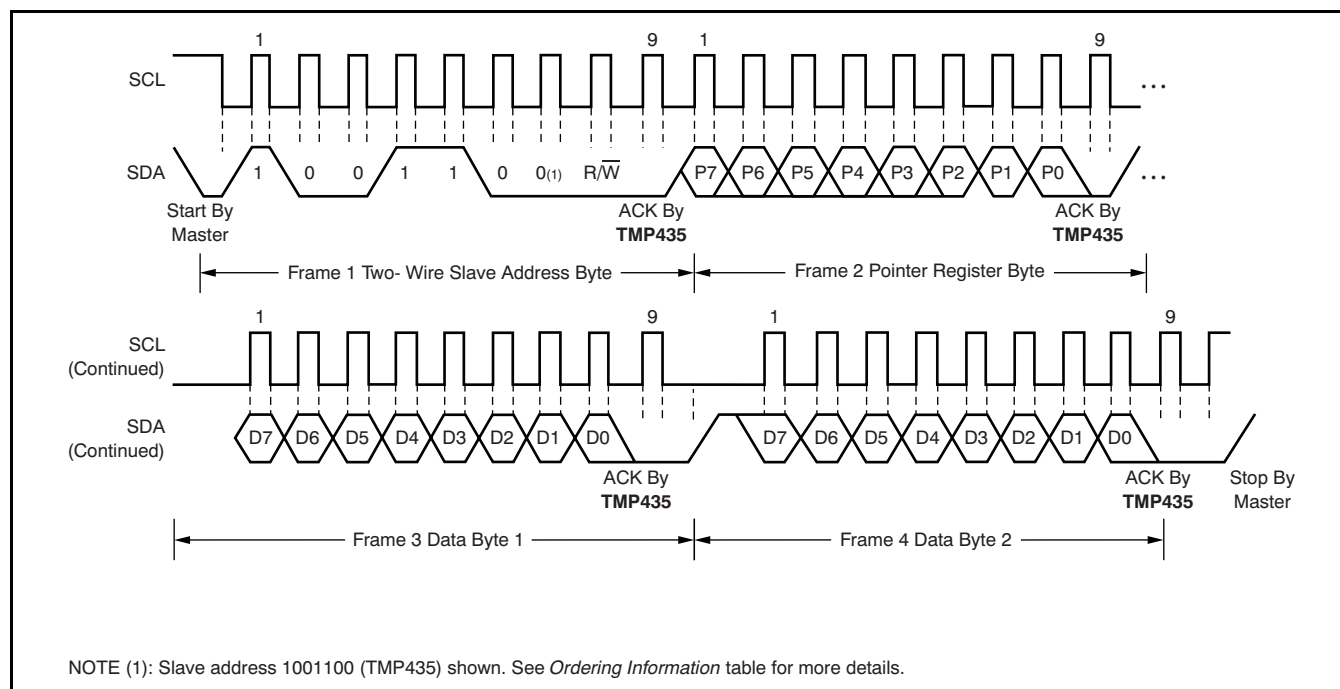

**Figure 15. Two-Wire Timing Diagram**
The TMP435 is two-wire and SMBus-compatible. Figure 15 to Figure 19 describe the various operations on the TMP435. Bus definitions are given below. Parameters for Figure 15 are defined in Table 15.
**Table 15. Timing Diagram Definitions for Figure 15**